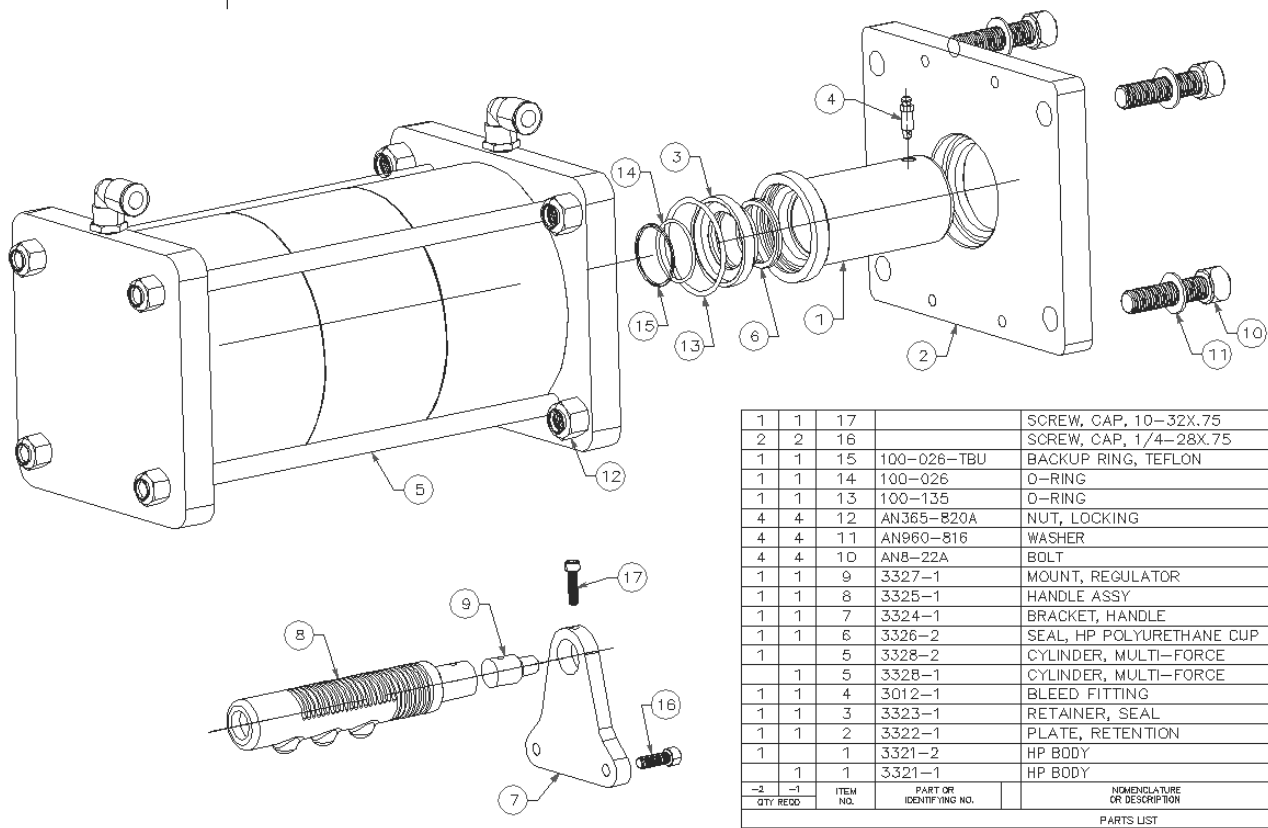

FIGURE 5 – PARTS LIST
- 6.8 Figure 5 shows an exploded view of the intensifier, and associated replacement parts. The main air cylinder is non-repairable.